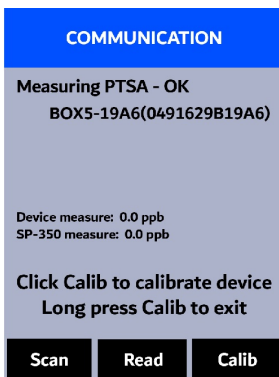

Figure 14.
11. Press **Read** (**>**) to see PTSA measurement from the SP-350 along with the sensor measurement (Figure 14).